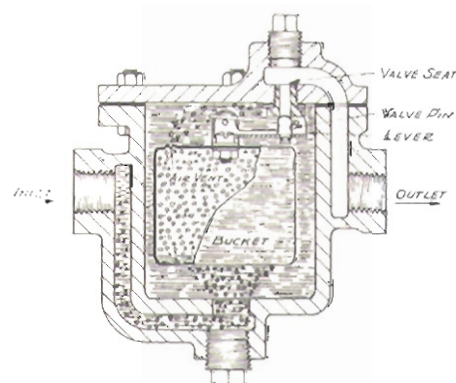
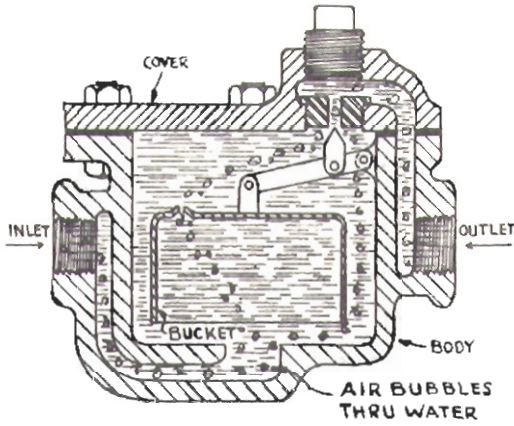

Fig. 2
Fig. 3A
Fig. 2 shows the construction of an Inverted Bucket Trap. As can be seen, the inverted bucket is entirely submerged in the condensate. The bucket is fastened to the end of a lever, and the valve pin is fastened to the same lever, but near the fulcrum. Fig. 3A, 3B, 3C, and 3D show the sequence of operation for an Inverted Bucket Trap.
Simple Internal Construction. Conventional Inverted Bucket Traps are simple in construction as can be seen in Fig. 2. The basic internal mechanical parts are composed of the following: (1) Bucket; (2) Bucket Lever; (3) Valve Pin; (4) Valve seat; (5) Seat Yoke; (6) Fulcrum Pin.